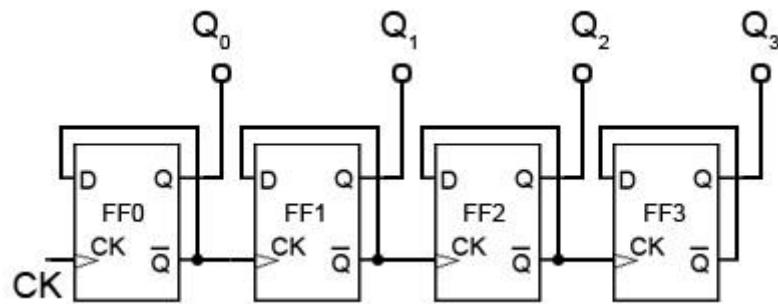

Figure 5: The 5 bit serial counter.
- A diagram of the counter is shown in Figure 5. Write System Verilog code for the counter using the hint from the Figure.